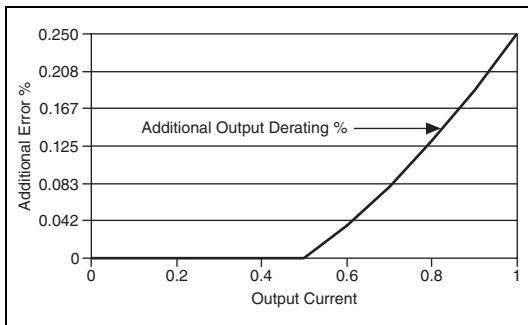

Figure 1. Accuracy Specification Derating versus Load Current
* Calibrated at half of voltage range on channel. Applies to current limits greater than 2% of range. Applies to output current up to 500 mA. For output current greater than 500 mA, refer to the derating information in Figure 1.
* Using the niDCPower **Samples to Average** property/attribute set to 300. Applies to output current up to 500 mA. For output current greater than 500 mA, refer to the derating information in Figure 1.